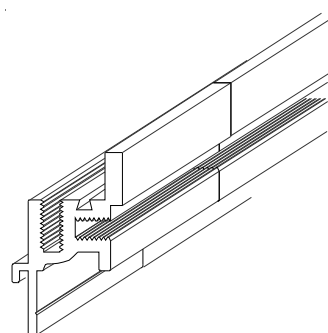

Figure 9
**STEP 3.** Abut the mating sections of the frame together as tightly as possible (see Figure 9). Ensure